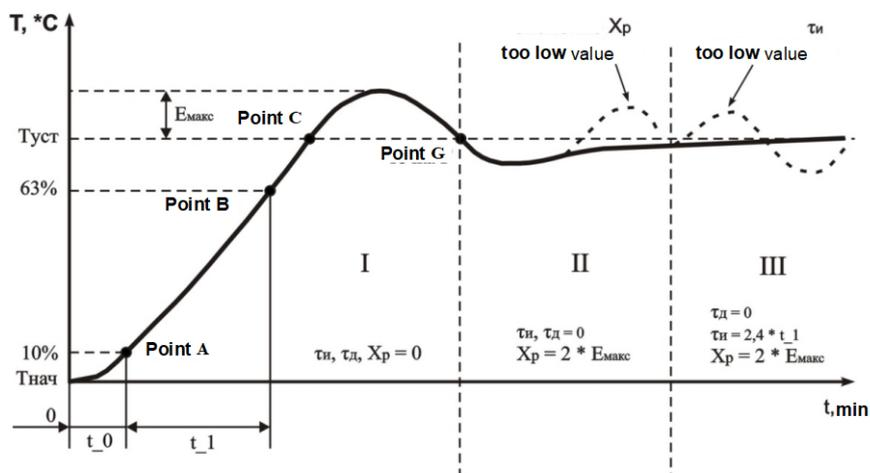

Figure 7.1 - PID regulator manual tuning
After switching off loading relay (period I, point B at figure 7.1) sometime the temperature mechanically will be increase further.
As soon as the control temperature will come down low  $S^P (T_{уст})$ , process automatic tuning will be finish (point G figure 7.1) and to display device display continuous lettering “P̄ d”.
After passage to mode regulation (at the end of 20 seconds the device automatically pass into mode regulation) output relay of loading will be power on till fail to reach regulation temperature (setting limit)  $T_{уст}$  (period I, point B into figure 7.1)
7.2.5.3.4 Take measure  $t_1$  – time from the moment of temperature increase to 10% (point A at figure 7.1) and to the moment of temperature increase to 63% from the range  $T_{уст} - T_{нач}$  (point B at figure 7.1).
7.2.5.3.6 Take measure of maximum value overshoot between points B and G ( $E_{макс}$ . figure 7.1).
7.2.5.3.7 Fix the value  $X_p = 2 * E_{макс}$  (period II at figure 7.1).